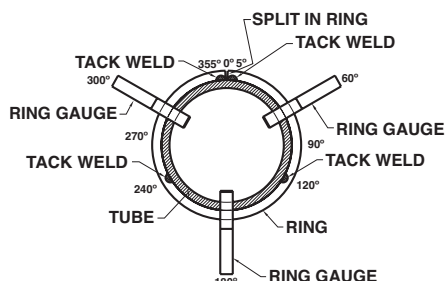

Fig. 5
5. Tack weld the ends of the ring to the pipe. Continue tack welding around the perimeter to secure the ring in place (see Fig. 5).